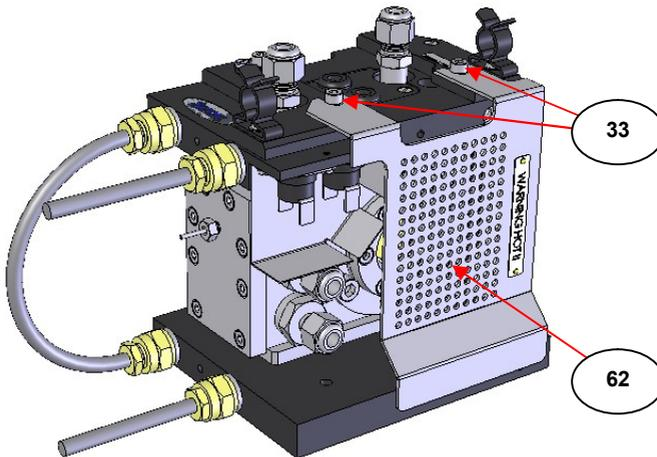

Fig 12. Heat Shield Fitted for Reflectance Mode of Operation
The two heat shields (31) and (32) from the HTHP Cell will need to be removed (if these are fitted), for the reflectance mode of operation. Subsequently, the alternative heat shield (62) provided for the reflective mode of operation will need to be fitted in position replacing the large heat shield (32) and the side support bracket (67) and short side support plate (68) are fitted to the upper water cooled plate (1) that requires removal of the small heat shield (31). At this stage, before fitting the wedged window assembly (56), the new heat shield (62) can be fitted now over the plane window assembly (11) that is being retained on the HTHP Cell body (3). The two cap head fixing screws (33) for the heat shield (62) are tightened to hold it in position as shown for **Fig 12**.
Remove the plane window assembly (11) from the side of the HTHP Cell that **does not** contain the side inlet gas ports (13) and (14). (The side opposite to that shown for **Fig 12.**). This is achieved by unscrewing the six M6 x 10mm cap head fixing bolts (30) using the 5mm A/F hexagon key bit and torque wrench supplied. (Please refer to the HTHP Cell instruction manual 2I-05850-17, pages 38 to 44, for removal and fitting of window assemblies.)